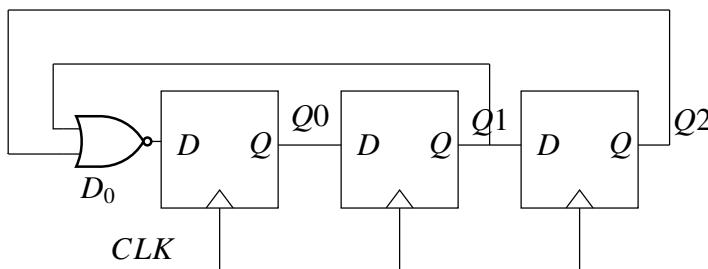

Fig. 5.4
4. The digital circuit shown in Fig. 5.4 (GATE IN 2022)